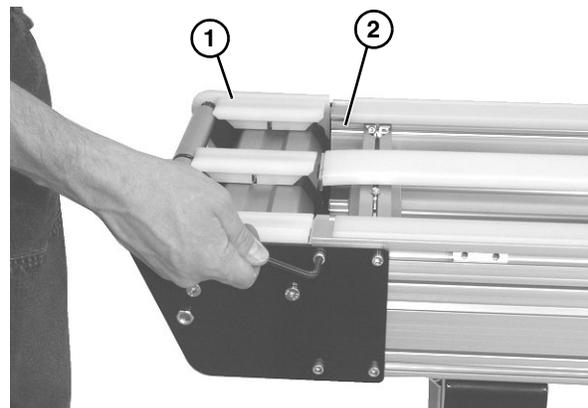

Figure 55
*When reinstalling the idler spindle tail assembly, the idler terminal assembly (**Figure 55, item 1**) should mate flush with the conveyor frame (**Figure 55, item 2**).*